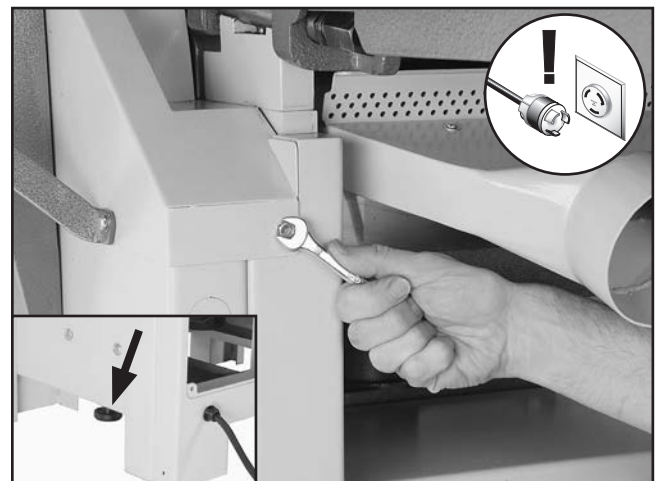

Figure 46. Removing bolts on V-belt cover and belt tension knob (inset).
2. Remove the five hex bolts securing the V-belt cover (see Figure 46).
3. Remove the fence and fence bracket, then remove the motor access cover and belt tension knob (Figure 46).